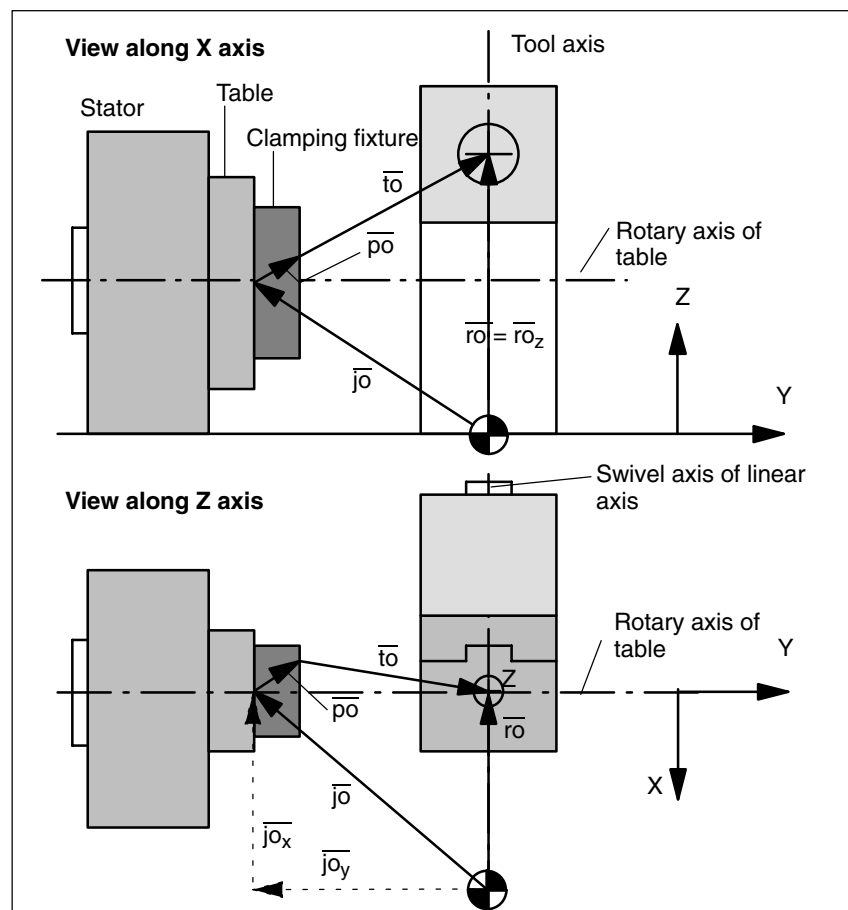

Fig. 2-12 Example of vector designations for MD settings for Fig. 2-11
Fig. 2-12 shows the vector components for the machine represented in Fig. 1-3 with their respective designations.
- Determine the x and y components of the vectors indicated as shown in the lower section of Fig. 2-12 for vector \bar{j}_0 .